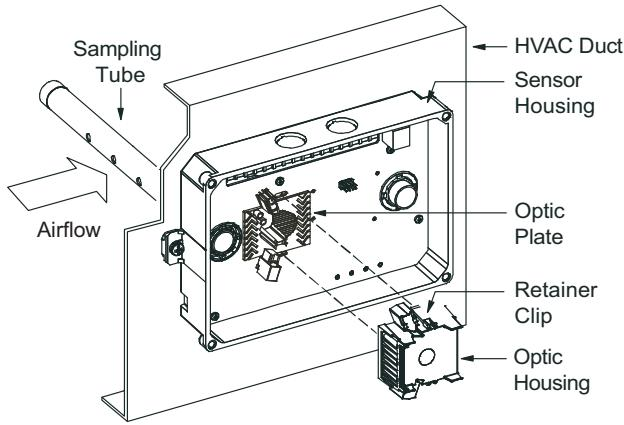

Fig. 44 – Sensor Cleaning Diagram
1. Disconnect power from the duct detector then remove the sensor's cover. See Fig. 44.